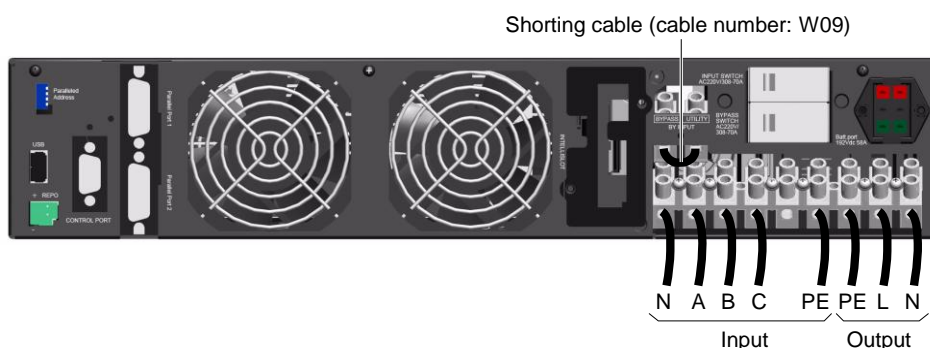
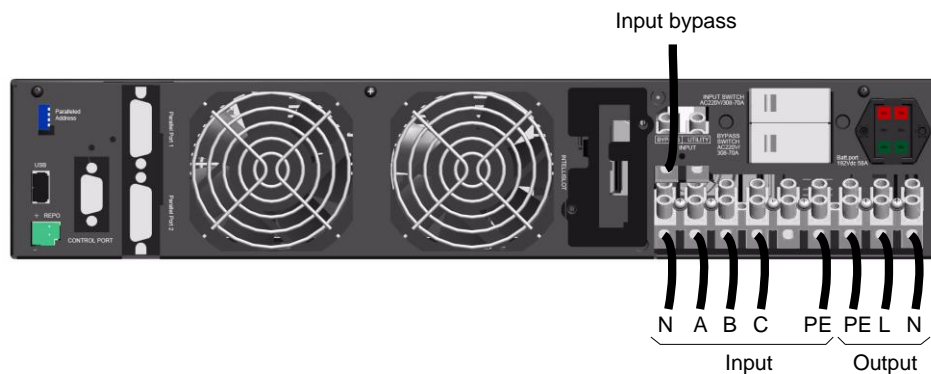

Figure 2-20 Cable connection for 3-input 1-output, common source configuration
Figure 2-21 Cable connection for 3-input 1-output, split-bypass configuration
6. Connect the main input live line (phase A, phase B and phase C), N line and PE line respectively to the input live line terminal (U), input live line terminal (V), input live line terminal (W), input neutral line terminal (N) and input earth line terminal (PE) of the UPS I/O terminal block, and tighten the fixing screws. The input live line terminal (U1) is not connected, as shown in Figure 2-20.
7. Connect the output L line, N line and PE line respectively to the output live line terminal (L), output neutral line terminal (N) and output earth line terminal (PE) of the UPS I/O terminal block, as shown in Figure 2-20.
5. Connect the main input live line (phase A, phase B and phase C), N line and PE line respectively to the input live line terminal (U), input live line terminal (V), input live line terminal (W), input neutral line terminal (N) and input earth line terminal (PE) of the UPS I/O terminal block, and tighten the fixing screws. The input live line terminal (U1) is not connected, as shown in Figure 2-21.
6. Remove the shorting cable (cable number: W09, see Figure 2-20), connect the input bypass line to the BYPASS terminal of the bypass terminal block, and tighten the fixing screws, as shown in Figure 2-21.
7. Connect the output L line, N line and PE line respectively to the output live line terminal (L), output neutral line terminal (N) and output earth line terminal (PE) of the UPS I/O terminal block, and tighten the fixing screws, as shown in Figure 2-21.